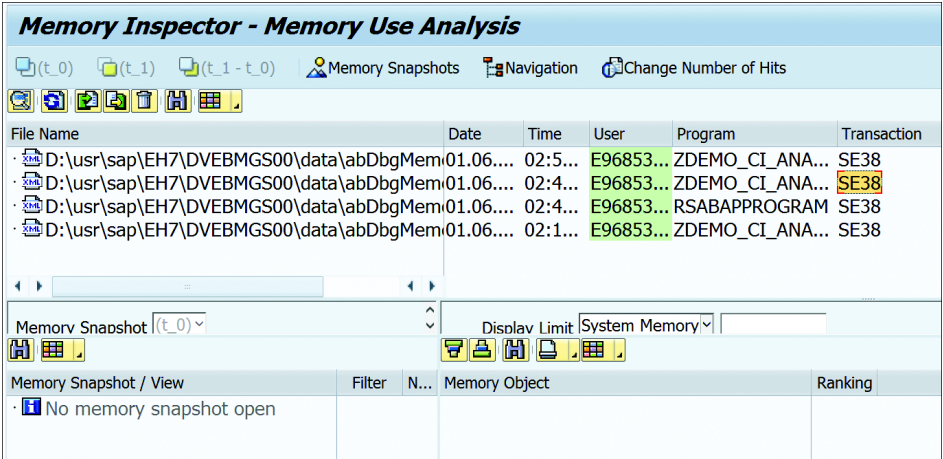

Figure 21.14 Memory Snapshots
1. Go to Transaction S_MEMORY_INSPECTOR to compare memory snapshots or use the menu path SYSTEM • UTILITIES • MEMORY ANALYSIS • COMPARE MEMORY SNAPSHOT. The initial screen lists all the memory snapshots available for analysis, as shown in Figure 21.14.